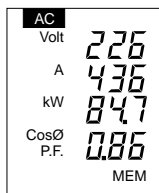

Fig. 5.4
- **MEM:** This push-button enables you to memorize the measurement at a specific point in the plant, or at a given time. The display will show the difference between the (memorized) values of Voltage (V), Current (A) and Power (W) and the values being measured to the present time (see Fig. 5.4).